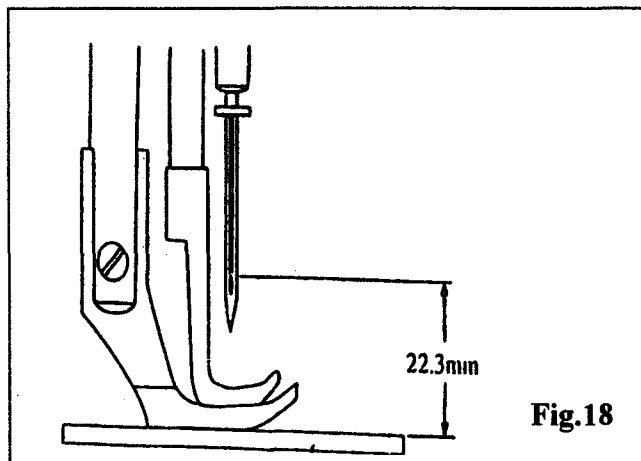

Fig.18
16. ADJUSTING THE HEIGHT OF THE NEEDLE BAR (Fig.18)